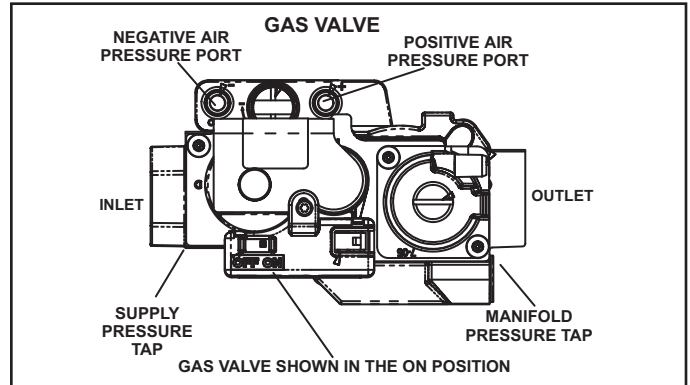

FIGURE 44
Gas Valve Operation (FIGURE 44)
- 6 - Move gas valve switch to **OFF**. See FIGURE 44.
- 8 - Move gas valve switch to **ON**. See FIGURE 44.
- 2 - Remove the threaded plug from the outlet side of the gas valve and install a field-provided barbed fitting. Connect measuring device positive "+" to barbed fitting to measure manifold pressure. See FIGURE 44 for manifold location.